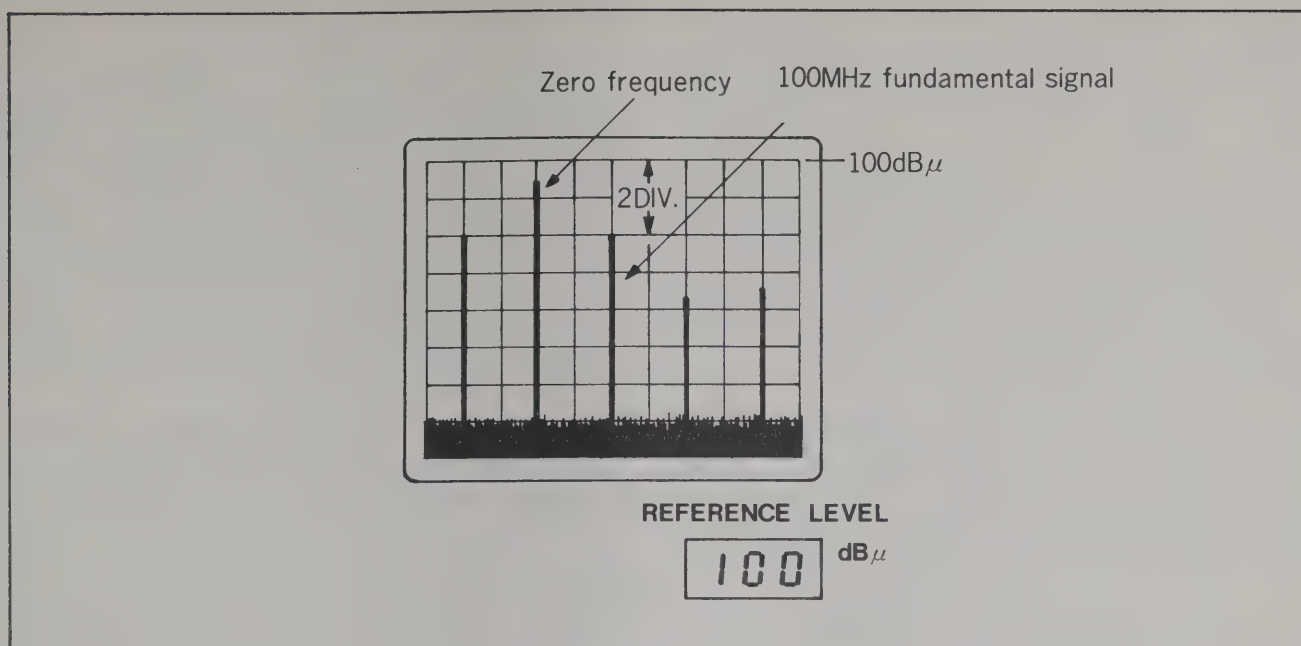

Figure 3.8  $\text{dB}\mu$  Calibration display
3.4.2.1.3 A signal spectrum as per Figure 3.8 should appear on the CRT DISPLAY. The 100 MHz fundamental signal amplitude level should be 2 divisions or 20 dB below the top reference line, if not utilize the IF GAIN CAL adjustment to set the correct amplitude level.